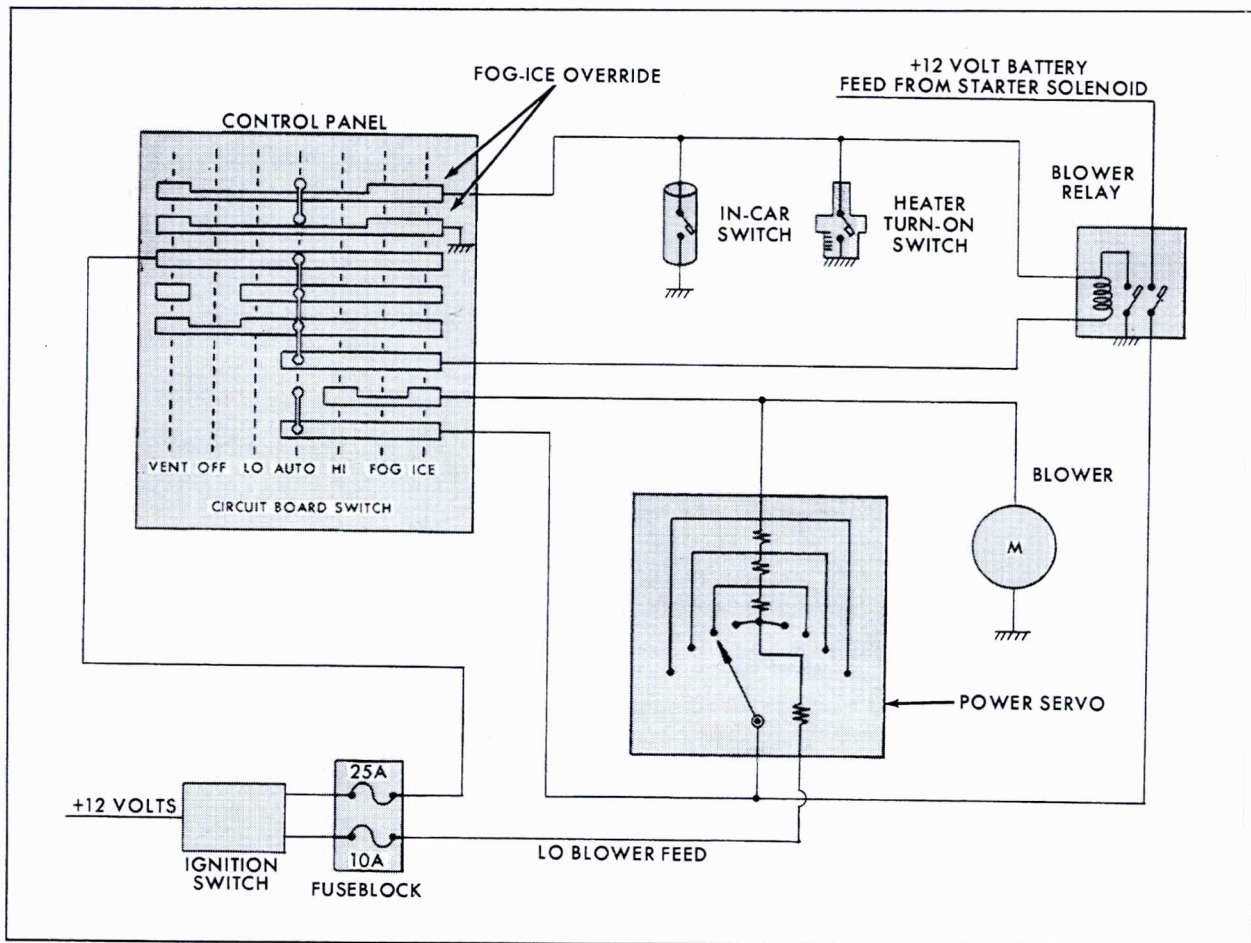

Fig. 1-19 Blower Speed Circuit
c. Blower Speed Control Circuit (Fig. 1-19)
The different blower speeds are obtained by use of electrical circuits as shown in Fig. 1-19. The low blower circuit is through the ignition switch and 10 amp fuse to the power servo circuit board and resistor assembly. At the power servo the low blower circuit goes through all four resistors and then to the blower motor. It should be noted that the low blower circuit is energized any time the ignition switch is on. The low blower speed is used at the "VENT", "OFF", and "LO" lever settings. The position of the purge door determines whether the air is directed into the pas-